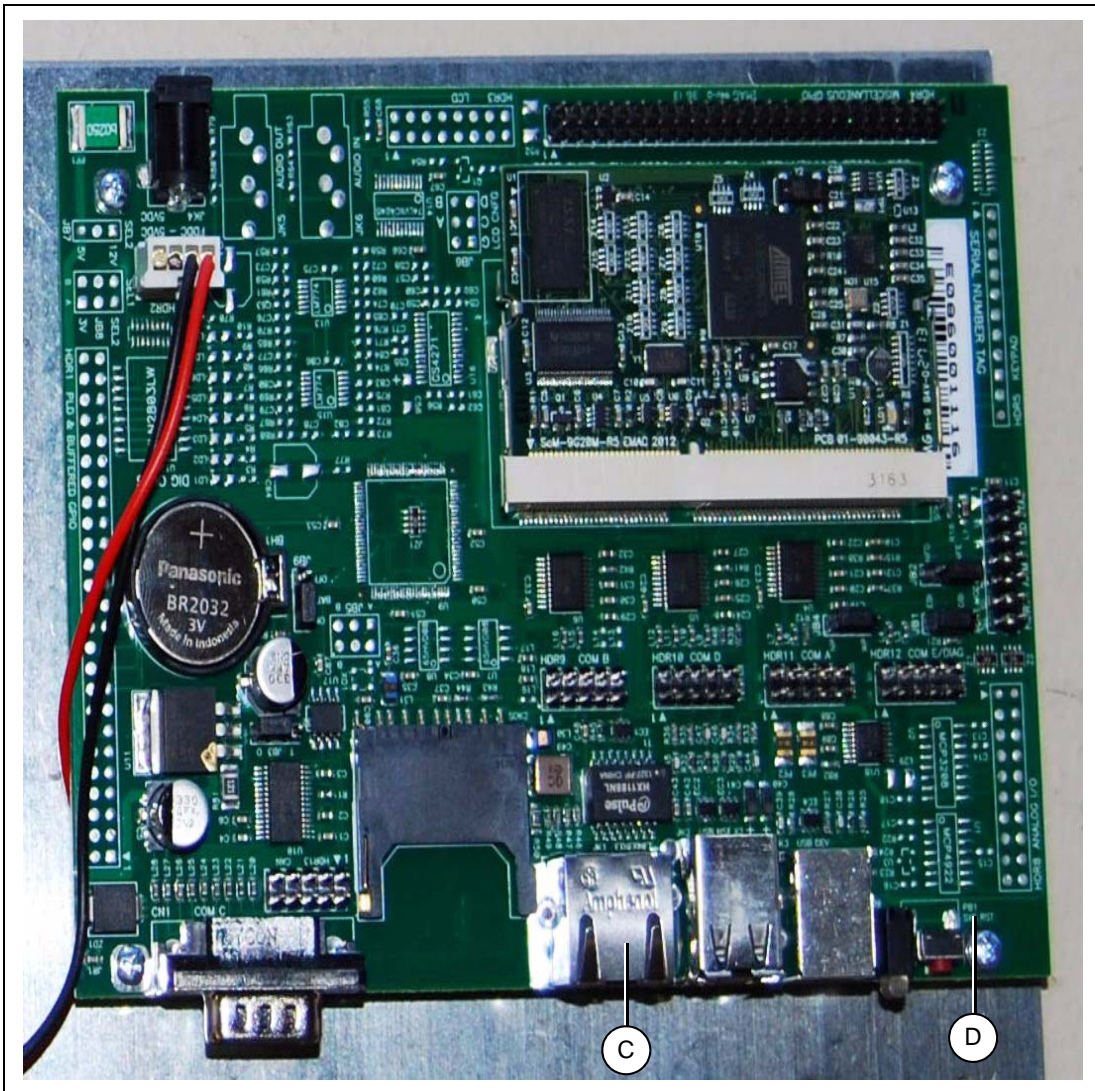

Figure 5D WatchDog Board
4. Connect an Ethernet cable between the cell MODEM and the Ethernet port on the WatchDog Board. (See Figure 5D.) Each port is labeled on the circuit board.
3. Connect hardwired Ethernet connection provided by the customer to the WatchDog's Ethernet port. (See Figure 5D on Page 18.)